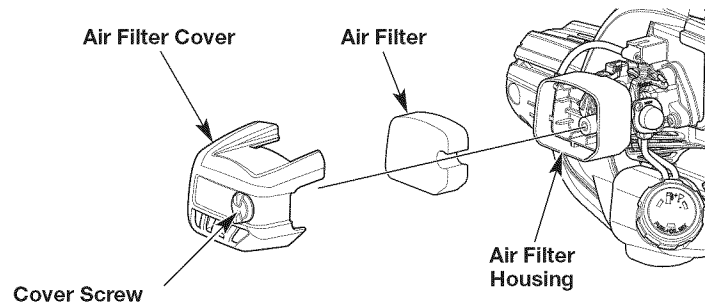

Fig. 17
1. Open the air filter cover by unscrewing the cover screw (Fig. 17).
2. Remove the air filter from inside the air filter housing (Fig. 17).